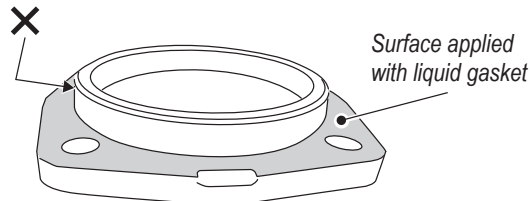

Fig.8-47
- k. After applying the liquid gasket (Threebond #1211) to the surface of bearing cover that contacts the vibrator case, assemble it to the vibrator case. After assembled the bearing cover, check the thrust gap of driven shaft. (Fig.8-47) (Standard value: 0.5 – 1.0mm)